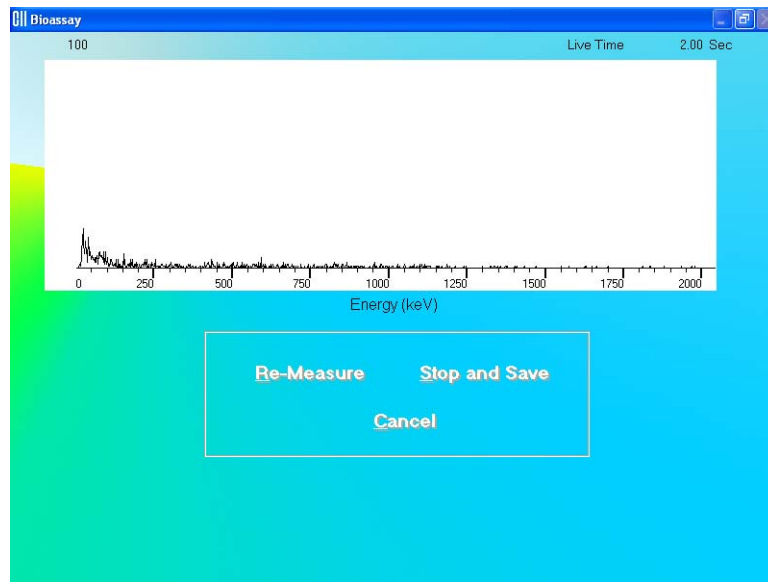

Figure 11-7
- v. Verify that there are no radioactive sources in the area and click the **OK** button to measure background counts. The Data Acquisition screen (Figure 11-7) is displayed.
button. Data collection begins as shown in Figure 11-7 above. To